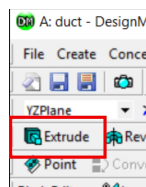

Figure 8: The Extrude button shown inside a red box
12. With the 2D profile of the duct profile complete, extrude the feature in the x direction by clicking Extrude (Located as shown in Figure 8) and setting the depth found in the Details View pane to 2.00m.